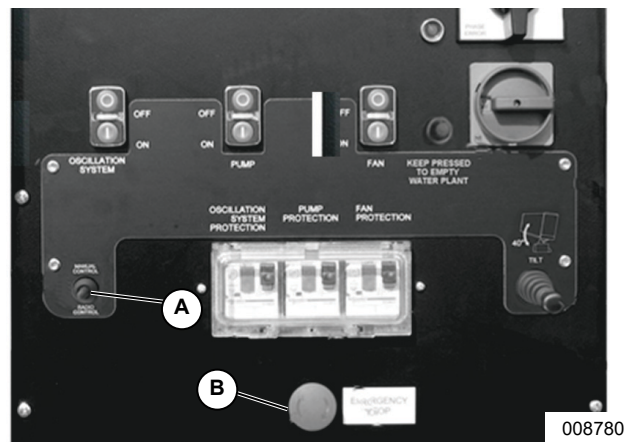

Figure 3-8. Control Panel
1. See Figure 3-8. Move control switch (A) to RADIO CONTROL.
2. Verify emergency switch (B) is in the out, armed position. If emergency switch is not armed, twist counterclockwise to reset.